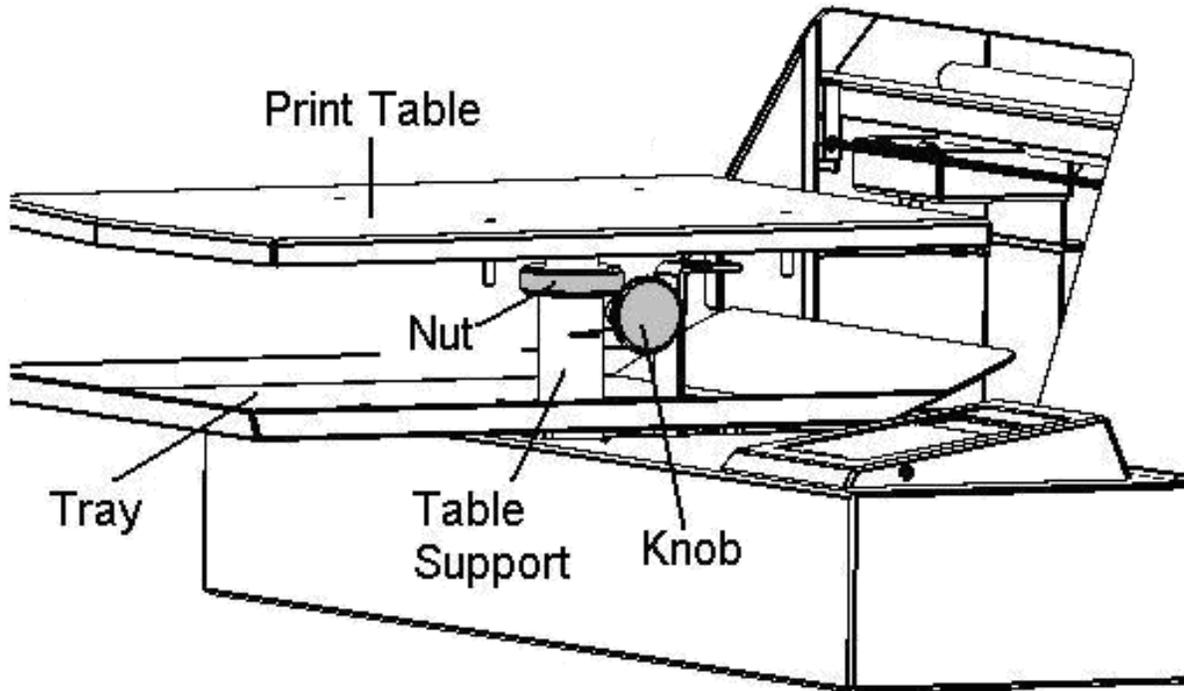

Figure 4.4 Print table adjustment diagram
Print table height is adjusted by turning the “nut” on the “table support bar”. The “knob” located beneath the print table must be loosened by turning it counter clockwise prior to any other adjustments (See Figure 4.4). To raise the Table, turn the Nut clockwise (when viewed from the top). To lower the table, turn the nut counter clockwise. Once you have achieved the correct height, tighten the “knob” by turning it clockwise to lock in the table height. The following is a step by step process for setting print table height and checking and adjusting print table level.
2. Loosen the knob under the print table (Figure 4.4)